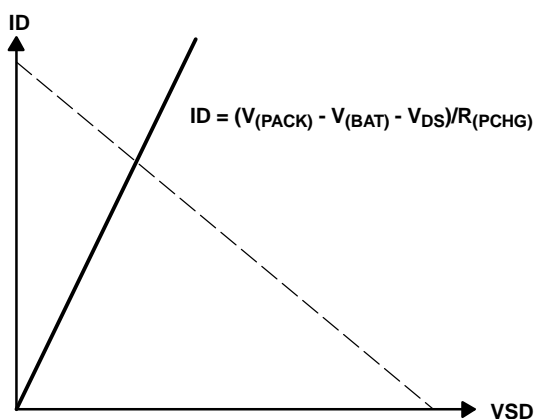

Figure 14. PCHG-FET ID—VDS Characteristic
- A load curve of the PCHG-FET is shown in Figure 14. When the drain-source voltage (V_{DS}) is high enough, the PCHG-FET operates in the linear region and has low resistance. By approximating V_{DS} as 0 V, the precharge current, $I_{(PCHG)}$ is expressed as below.